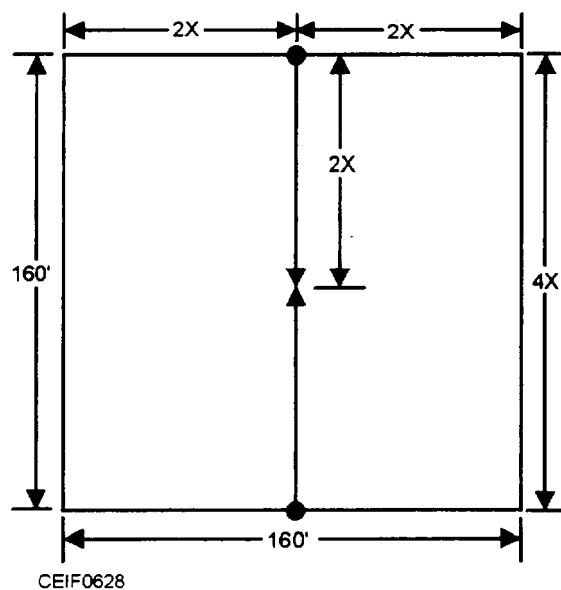
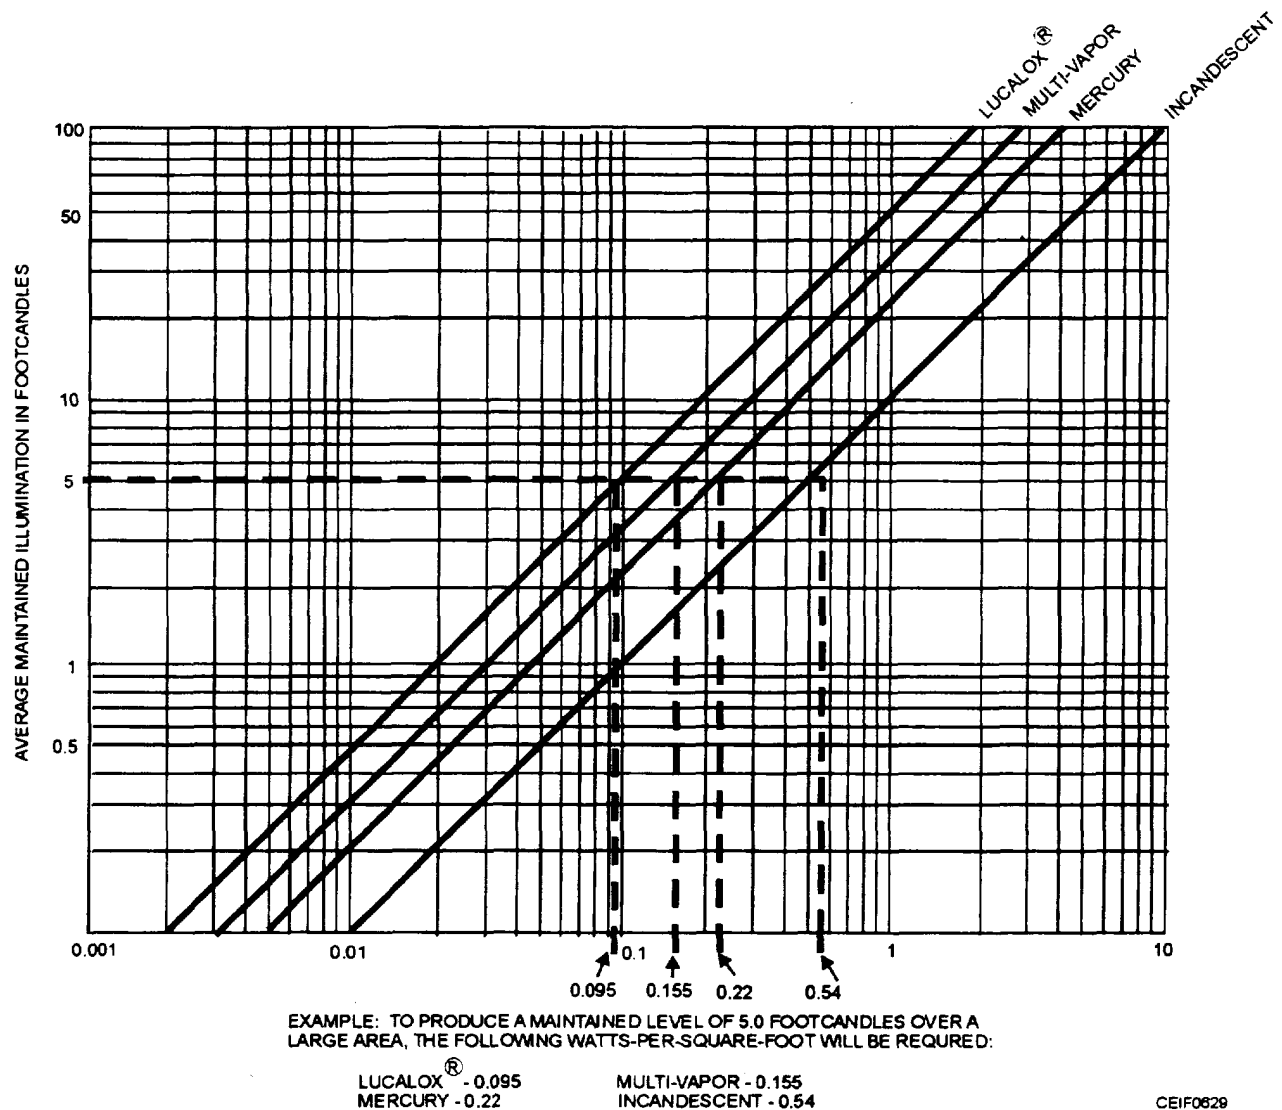

Figure 6-28.—Material yard sample problem.
Figure 6-29.—Lamp watts per square foot chart.
1. Apply the 2X-4X rule (fig. 6-28) to determine spacing and mounting height. A 40-foot mounting height provides $MH \times 2$ or an 80-foot aiming distance.
Another design method that will yield sufficient accuracy is the quick selector design method. The general layout considerations shown in figure 6-28 should be followed. The watts per square foot obtained from the graph in figure 6-29 produce an average lighting level accurate to within 20 percent of desired value. That is close enough, since the difference between the luminaire requirement obtained from the graph and the number that will actually be needed to satisfy the physical requirements of the job involve adjustments greater than 20 percent. It is not unusual, for instance, to need two poles instead of one or to require three luminaries per pole instead of two. This calculation method should not be used for sports lighting or where the poles are set back from the area to be lighted.
2. Read up the left side of the graph in figure 6-29 until you come to 5. Follow this line across until you intersect the dark diagonal line representing Lucalox[®].
4. Area to be lighted is (160)(160) = 25,600 square feet.